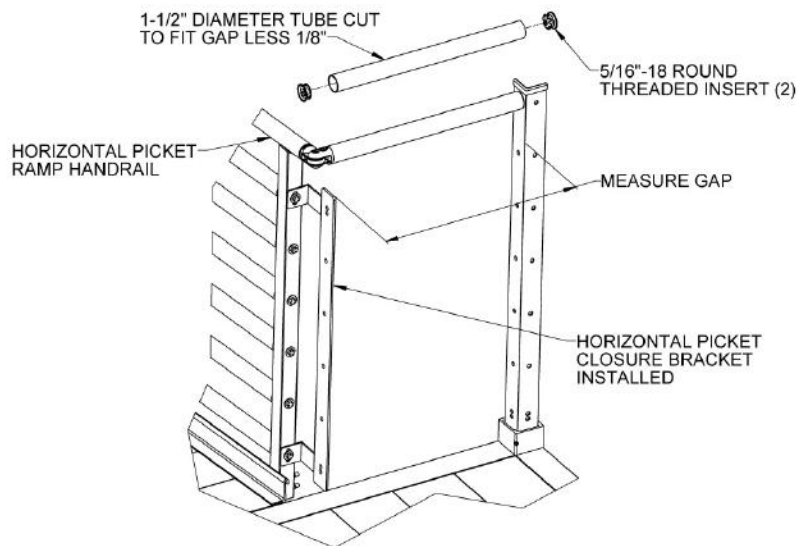

FIG. 5.19
- 5.6.8. Measure the gap between the horizontal picket closure bracket and the platform post (FIG. 5.19).
- 5.6.11. Install 5/16"-18 round threaded inserts into both ends of the cut tube and curb. Use a rubber mallet or similar tool to fully seat the threaded inserts (FIG. 5.19).